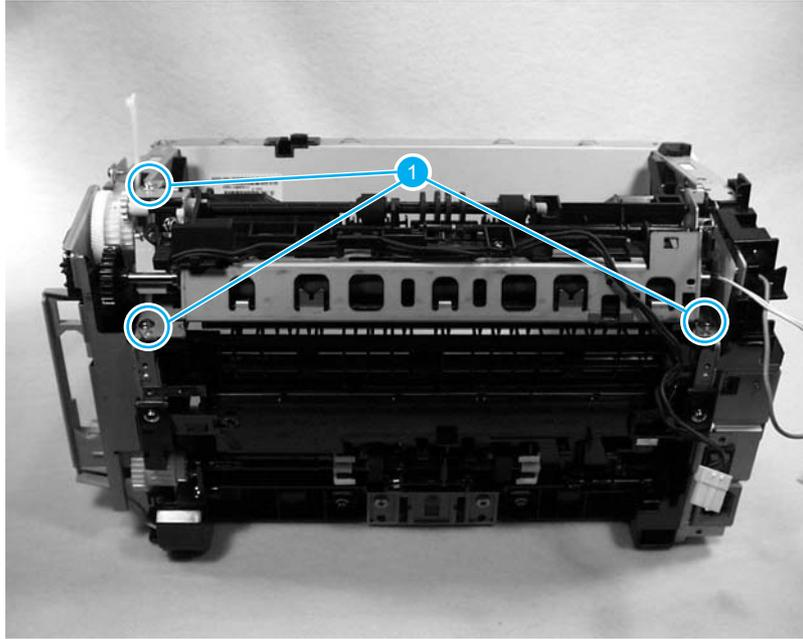

Figure 5-22. Removing the fuser (fixing) assembly
6. Remove 3 screws (callout 1, figure 5-22). (Figure shows delivery sensor PCB removed, which is not necessary).